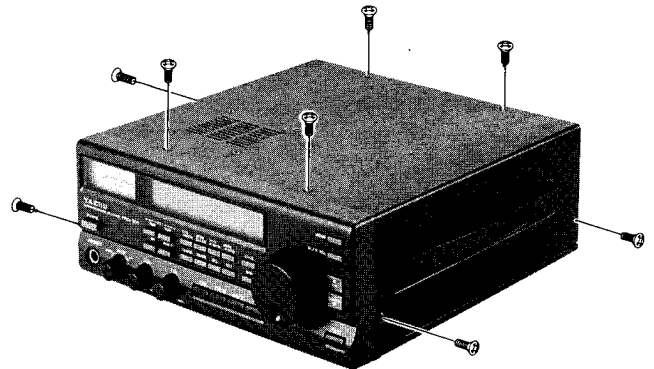

Figure 1: Top Cover Removal
- Place the set on stable work surface with the front facing you, and remove the eight screws affixing the top cover (Figure 1). Do not remove the four screws attaching the loudspeaker, or the screws attaching the carrying handle. Slowly lift the top cover off.